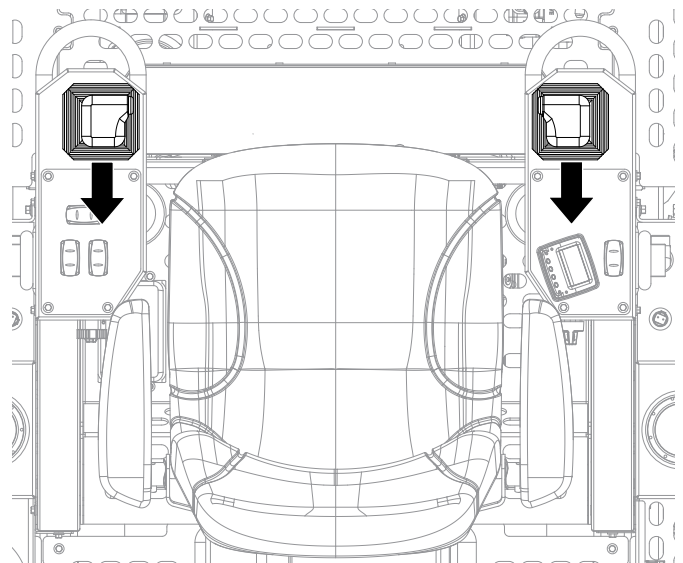

Figure 25. Joysticks (Reverse)
6. Pull both the left and right joysticks **backward** (Figure 25) and repeat steps 2 through 5 while substituting the word 'reverse' for 'forward'.